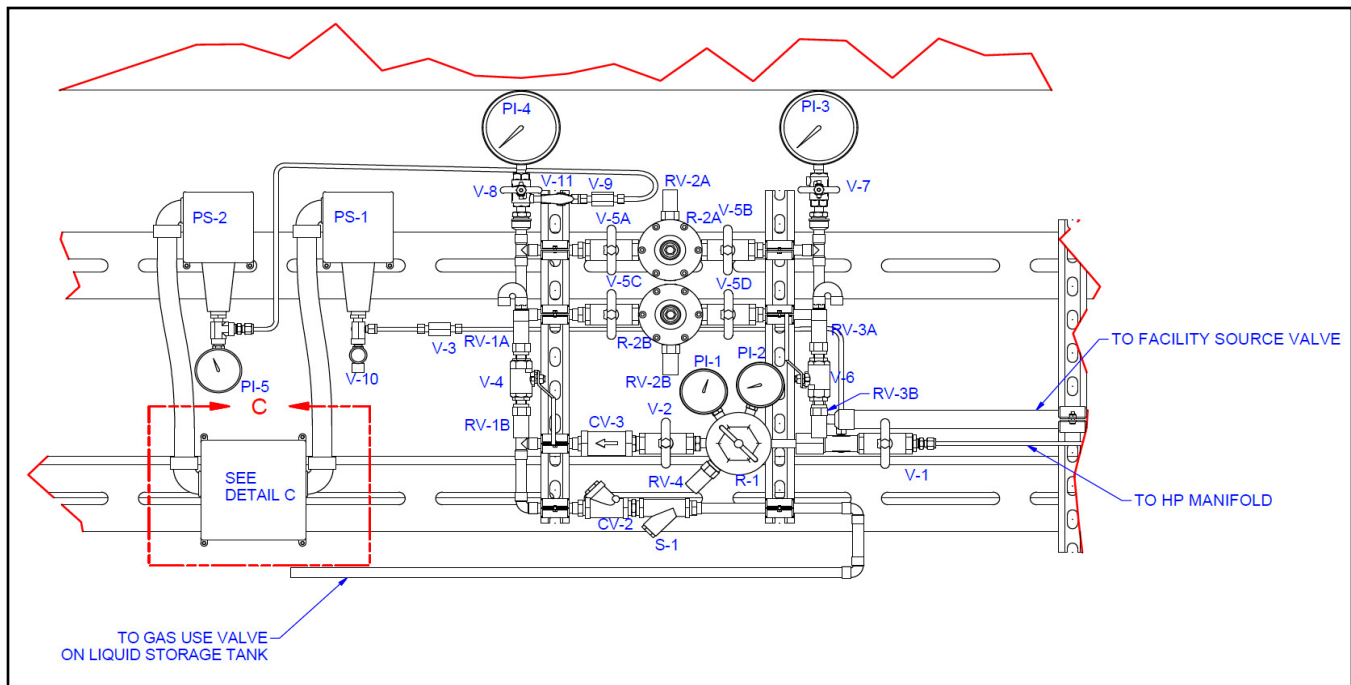

Figure 9 - Final Line Pressure Manifolds
- Make sure all the valves are closed (Gas use valve on tank, see Appendix 6 Perma-Cyl Spec Drawings, all V-5s, V-1 and V-2) (see Figure 9).
- Remove and plug the active safety (RV-3A or 3B) (see Figure 9) on the main gas outlet three way valve (V-6) and insure that valves (V-5A-D) and (V-7) are closed.
Refer to Figure 9 for valve references in the following procedure.
- Open V-2, all V-5s, V-8 (refer to Figure 9)
- Source gas should now be flowing throughout the entire manifold and out the purge port. Insure that both regulators R-2A & B (see Figure 9) are adjusted to 50-55 psig (or as called out in spec drawing D-20810866 for other model skids in Appendix 2).